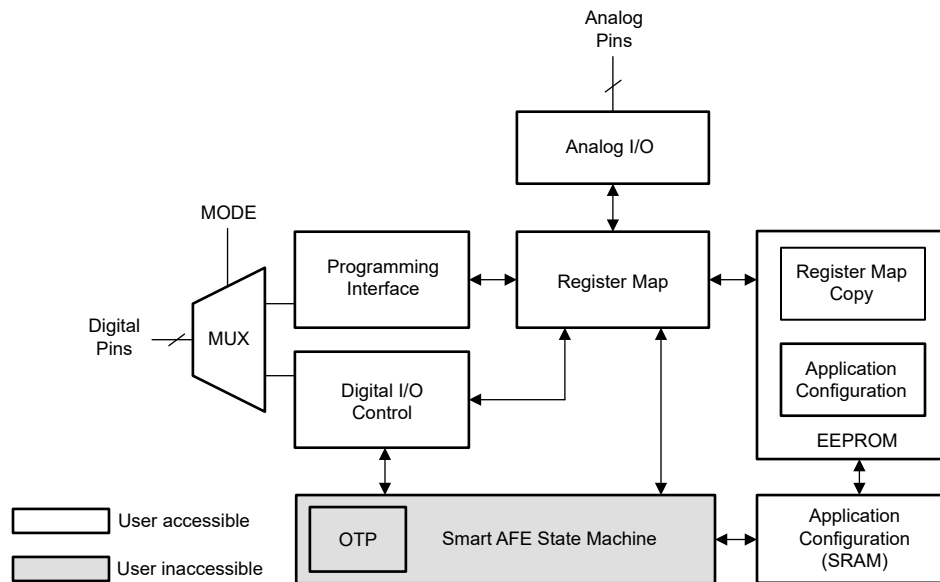

Figure 7-4. Smart AFE Architecture
The AFE439xx feature a programmable state machine supporting arithmetic, logic, and timing operations, as shown in Figure 7-4. This state machine has been pre-programmed as a proportional-integral (PI) controller allowing the user to program the coefficients and input-output parameters. The details of the PI controller are discussed in Section 7.4.6. The user configurations are stored in the NVM and the state machine can be operated in standalone mode without interfacing to a processor (*processor-less operation*)